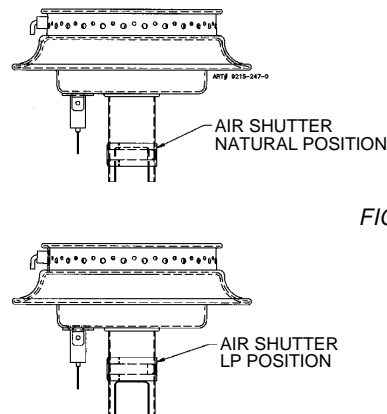

FIGURE 10
- Sealed burner adjustment. Adjust the air shutter for the appropriate gas according to figure 10.